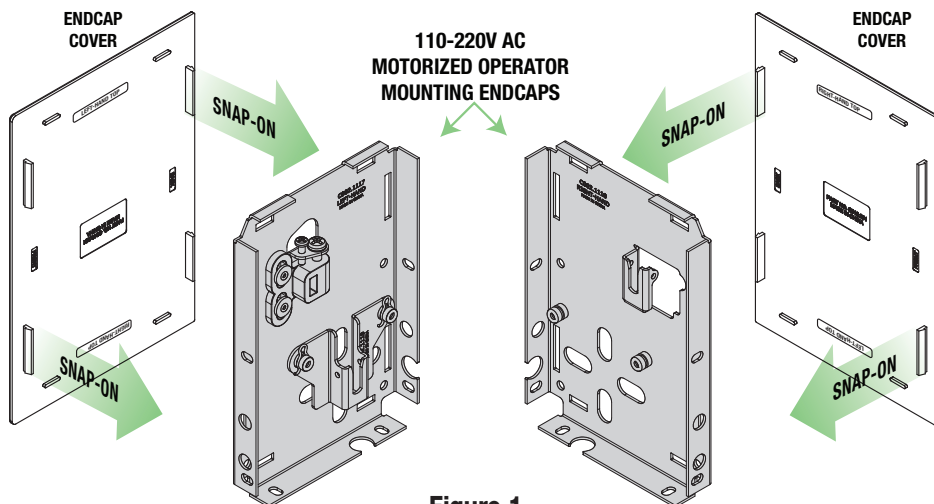

Figure 1
3. Snap endcap covers (Fig. 1) into place.